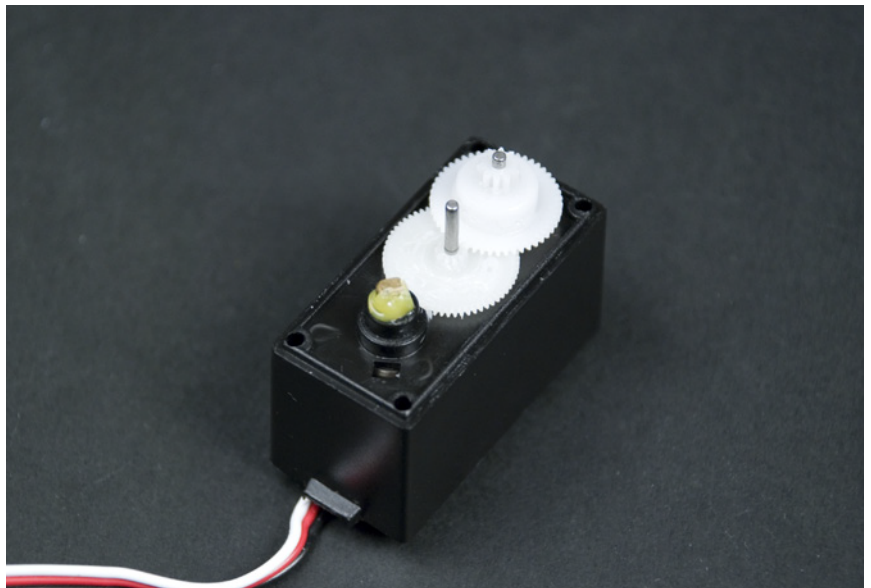

Figure 8-16. Using a drop of hot glue to hold the shaft of the potentiometer in place
9. To secure the potentiometer, add a drop of hot glue on top of it (see Figure 8-16). Make sure you use only a small amount of glue, so the other gears can still move freely.